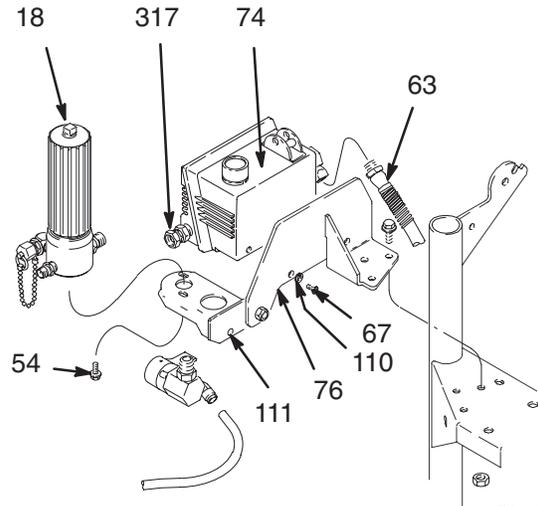

Fig. 22
4. Remove two screws (54) from filter bracket (111). See Fig. 22.
5. Disconnect the filter (18) from the pressure control (74) while holding nipple (317) firmly.
6. Remove the screws (67) and lock washers (110) from the back mounting bracket (76) and remove the pressure control (74).